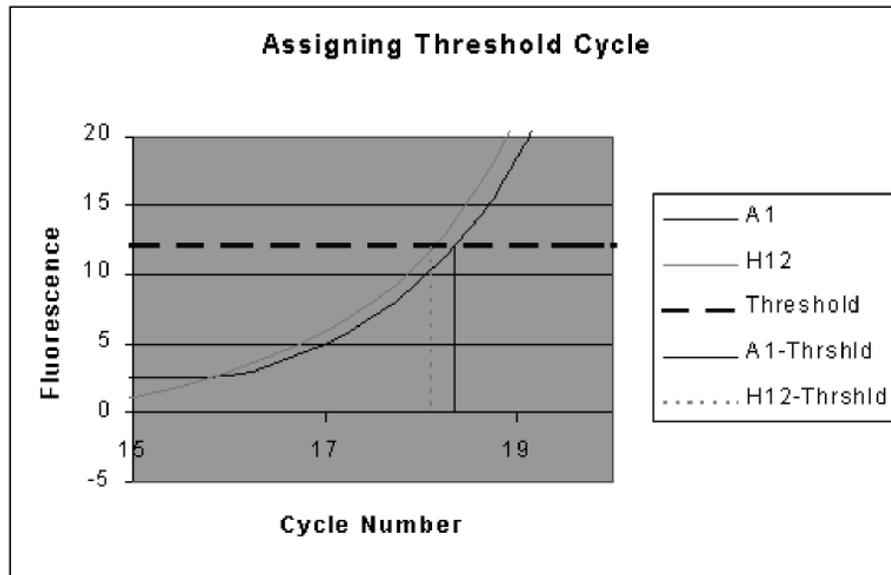

Fig. H.5. Assigning a Threshold Cycle.
- E. Finally the threshold cycle is determined by dropping a perpendicular line from the trace of a well as it crosses the threshold. In this example, the software would assign a threshold cycle of 18.35 for well A1 and 18.12 for well H12. See Figure H.5.